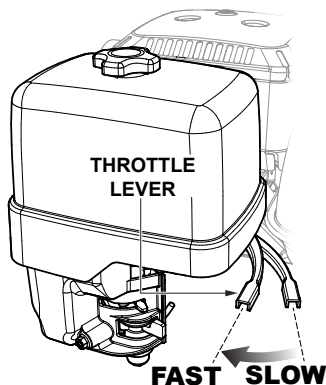

Figure 6. Throttle Lever (1/3 Start Position)
2. Move the throttle lever away from the **SLOW** position, about 1/3 of the way toward the **FAST** position (Figure 6).